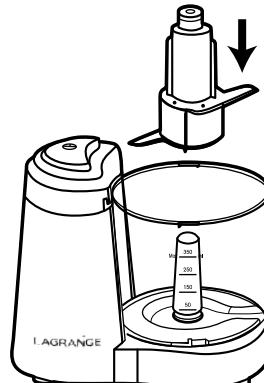

Fig. 2
- \* Install the cutting unit in the bowl for the food (Fig. 2). Put the cutting unit on the drive shaft, holding the plastic upper end of the cutting unit until it is fully inserted.